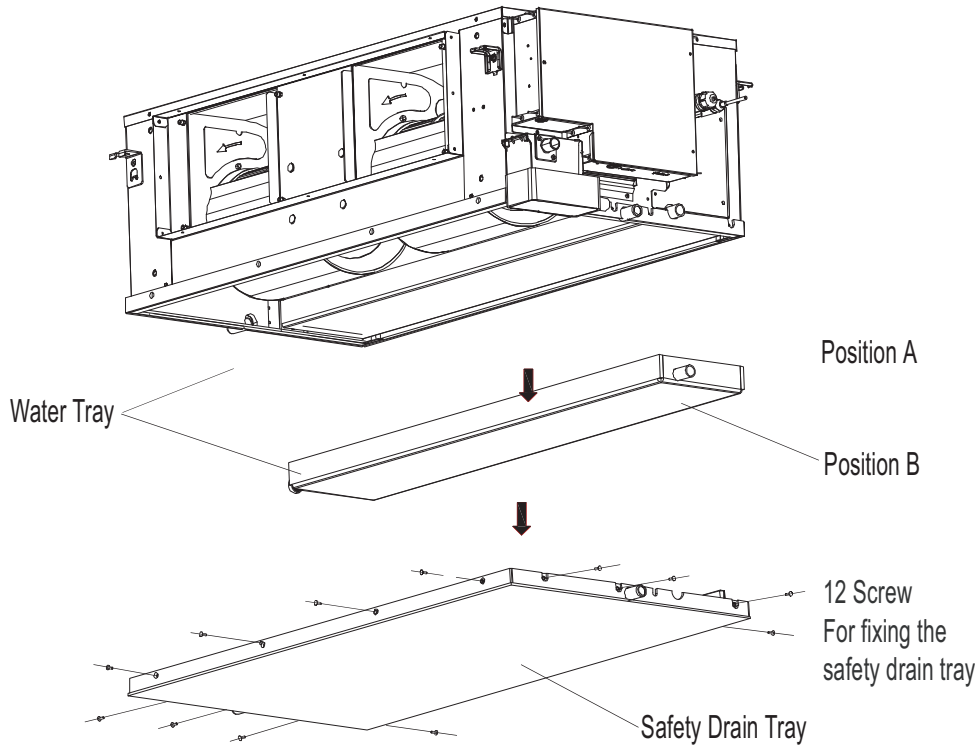

Fig. 31 —Fan Disassembly 036-054
1. Remove the 12 screws from the fixed Safety Drain T ray, and then take off the tray (see Fig. 31).
2. Take off the tray along the direction of the arrow (see Fig. 31).